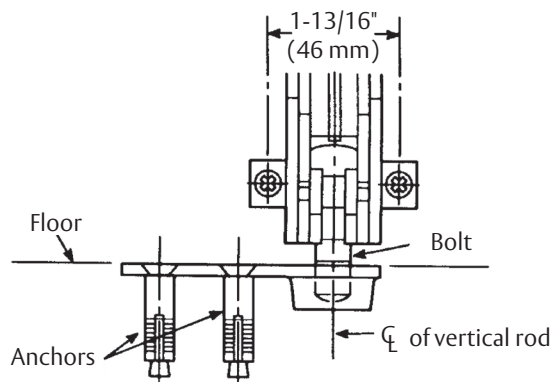

Figure 12
1. Using the strike as a template, mortise bottom strike into the floor, lining up carefully with the latchbolt centerline. (Figure 12)